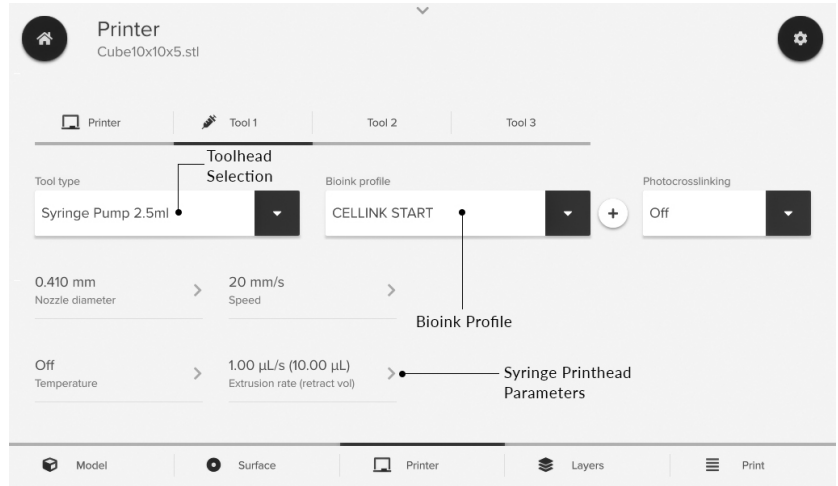

Figure 12: Printing parameters on the Printer menu.
Ensure that Syringe Pump 2.5 mL is selected under the printhead type (Figure 12).
6. Enter your printing parameters for the printhead (Figure 12). Proceed to the Layers menu. Parameters necessary for the Syringe Printhead include: